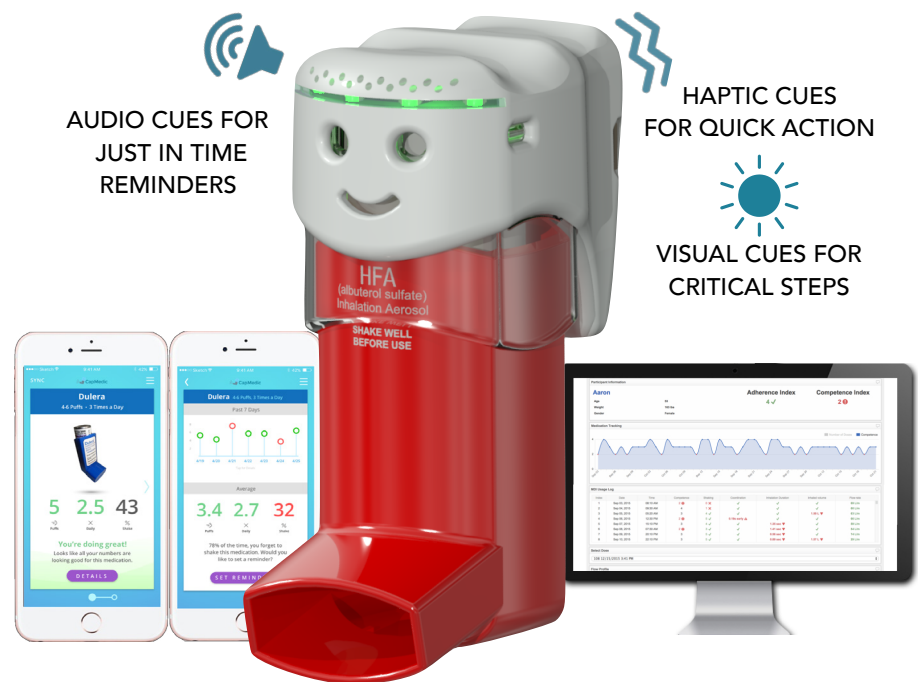

Figure 2: CapMedic can provide instant feedback in three configurable ways: audio instructions, visual feedback and haptic cues.
- **An always-available live-coach:** CapMedic converts these measurements into a highly capable audio-visual-haptic coach. For example, the coach can talk the user through the steps of inhaler use, such as reminding them to shake the inhaler, helping them time their actuation, encouraging deep inspiration and reminding them to hold their breath after inhalation. The coach is reconfigurable via the accompanying app, allowing users to change the method of feedback based on their personal needs (Figure 2).